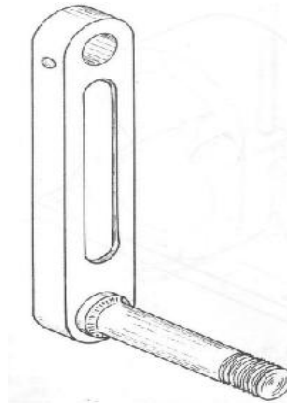

Figure 2
- a. Sketch the **figure 2** below of a crank and pedal using appropriate scale.